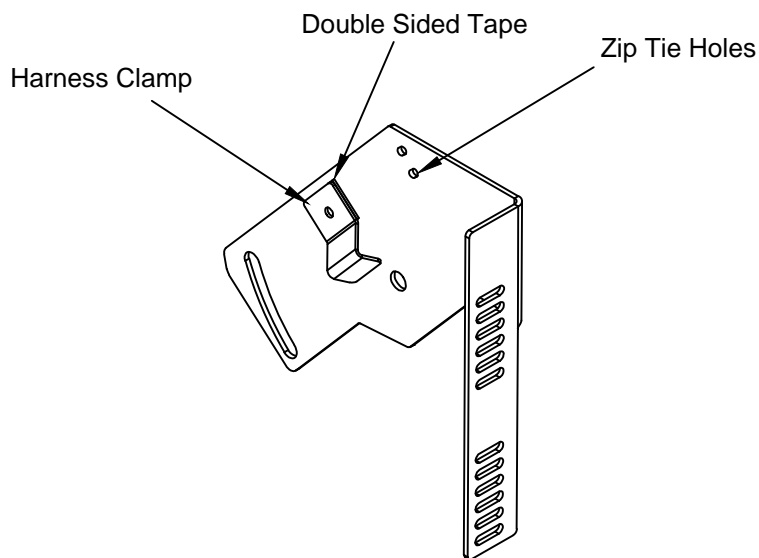

Figure 9: Secure cable.
7. **Bolt** the license plate, with the provided four (4) 1/4"x3/4" bolts and 1/4" keps nuts, on the license plate holder.
8. **Strip** the ends of the license plate light wires and connect to the vehicle wiring with the provided two (2) heat shrink butt connectors. Follow Tommy Gate Recommended Electrical Wiring Guidelines on page 5 when connecting to vehicle wiring.
10. **Secure** the license plate light wires through the arms and brackets using the provided zip ties and/or the double sided tape with harness clamps (Figure 9).